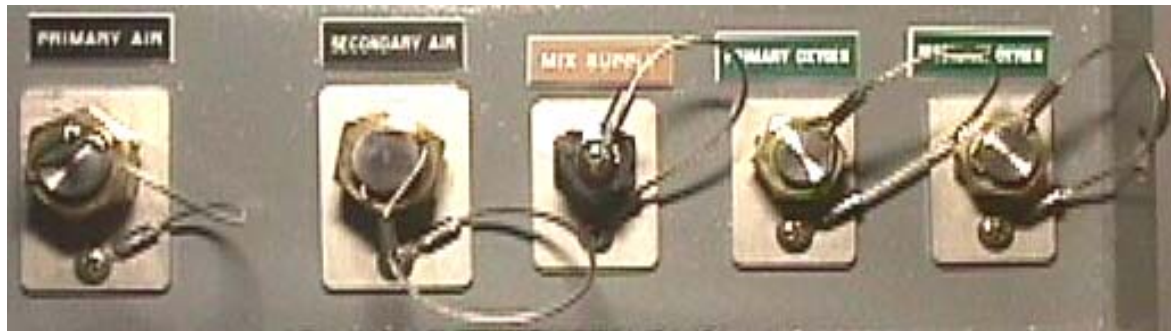

Figure 2-8. External Compressed Gas Supply Connections
2-5.4 EXTERNAL COMPRESSED GAS SUPPLY CONNECTIONS. On the outer wall of the SNDLRCS van, connections (see Figure 2-8) are provided for primary and secondary oxygen supply, mixed gas breathable air supply, and primary and secondary high-pressure (HP) air supply. On the opposite side of the wall, inside the van, is a bulkhead transition panel that, via flexible HP hoses, connects HP air, oxygen and/or LP mixed gas to their appropriate systems. These connections are put into service by connecting an external, flexible HP hose(s) from the gas system (HP air, oxygen, or LP mixed gas) connection to its pressure source. Note that mixed gas is reduced to low pressure on the HOSRA panel before it enters the SNDLRCS van, while air and oxygen are reduced to low pressure at their respective reducing stations inside the van.